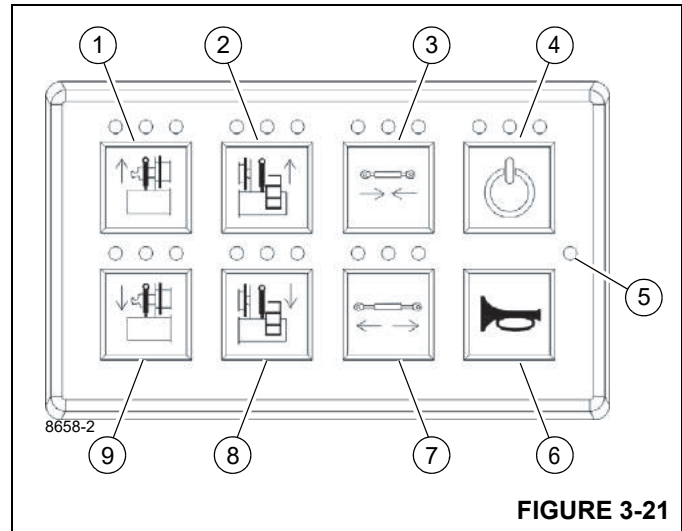

FIGURE 3-21
The Main Power LED (5, Figure 3-21) flashes green when Main Power is on. Three other LED indicators, located above each function button, indicate the status of the buttons.
The Right Counterweight Cylinder Raise Button (1, Figure 3-21) must be pushed and held to raise the right cylinder holding the right side of the counterweight. The operator must release the button when right side of the cylinder is at desired position.
The Left Counterweight Cylinder Raise Button (2, Figure 3-21) must be pushed and held to raise the left cylinder holding the left side of the counterweight. The operator must release the button when left side of the cylinder is at desired position.
The Lock Cylinder Retract Button (3, Figure 3-21) must be pushed and held to retract the lock cylinder holding the counterweight. The operator must release the button when lock cylinder is at desired position.
The Function Enable Button (4, Figure 3-21) is used to enable the other function buttons on the keypad. Thus, to operate the counterweight removal system, the enable button must first be pushed and released to activate all function buttons.
The Main Power LED Indicator (5, Figure 3-21) flashes green to indicate that Main Power is on.
The Horn Button (6, Figure 3-21) is always active and can be pushed at any time without first pushing the Keypad Enable button (4).
The Lock Cylinder Extend Button (7, Figure 3-21) must be pushed and held to extend the cylinder holding the counterweight. The operator must release the button when lock cylinder is at desired position.
The Left Counterweight Cylinder Lower Button (8, Figure 3-21) must be pushed and held to lower the left cylinder holding the left side of the counterweight. The operator must release the button when left side of the cylinder is at desired position.
The Right Counterweight Cylinder Lower Button (9, Figure 3-21) must be pushed and held to lower the right cylinder holding the right side of the counterweight. The operator must release the button when right side of the cylinder is at desired position.